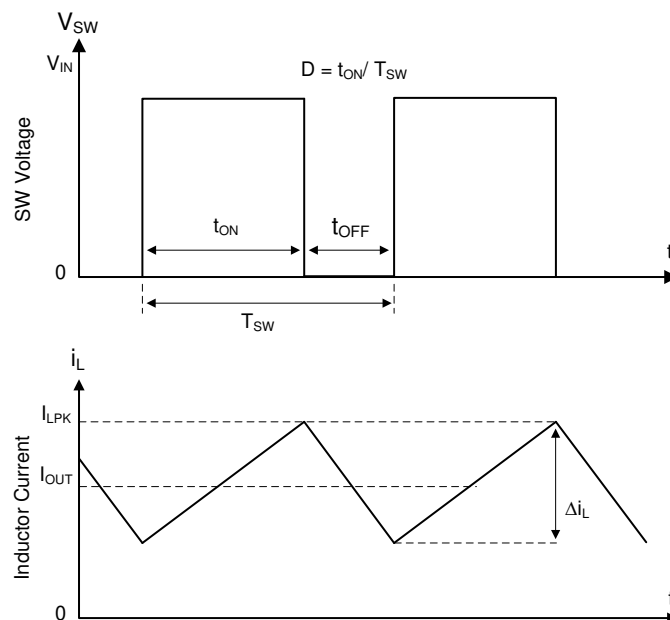

图 9-1. SW Node and Inductor Current Waveforms in Continuous Conduction Mode (CCM)
The following operation description of the TPS6293x refers to the functional block diagram and to the waveforms in Figure 9-1. The TPS6293x is a synchronous buck converter with integrated high-side (HS) and low-side (LS) MOSFETs (synchronous rectifier). The TPS6293x supplies a regulated output voltage by turning on the HS and LS NMOS switches with controlled duty cycle. During high-side switch on time, the SW pin voltage swings up to approximately V_{IN} , and the inductor current, i_L , increases with linear slope $(V_{IN} - V_{OUT}) / L$. When the HS switch is turned off by the control logic, the LS switch is turned on after an anti-shoot-through dead time. Inductor current discharges through the low-side switch with a slope of $-V_{OUT} / L$. The control parameter of a buck converter is defined as Duty Cycle $D = t_{ON} / t_{SW}$, where t_{ON} is the high-side switch on time and t_{SW} is the switching period. The converter control loop maintains a constant output voltage by adjusting the duty cycle D . In an ideal buck converter where losses are ignored, D is proportional to the output voltage and inversely proportional to the input voltage: $D = V_{OUT} / V_{IN}$.